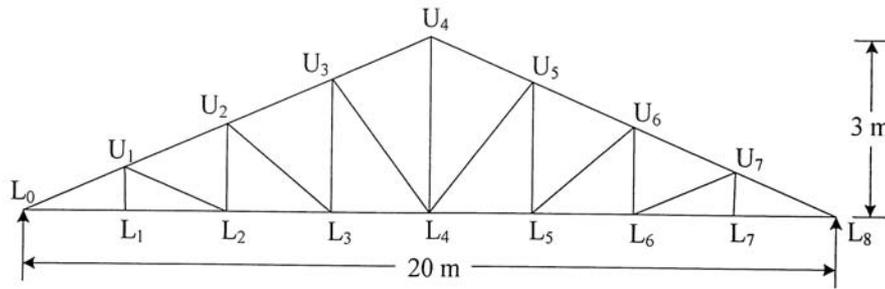

Fig. 7
- 7. a) A truss shown in Fig. 7 is used for an industrial building situated in Pune. The truss is covered with A C sheet . Calculate the panel point dead, live and wind load. Design the members  $L_0L_1$ ,  $U_1L_1$  and  $L_0U_1$  assuming  $k_1 = 1$ ,  $k_2 = 0.98$  and  $k_3 = 1$  and  $(c_{pe} - c_{pi}) = \pm 0.8$ ,  $f_y = 250$  MPa. Draw the design sketches. **25**